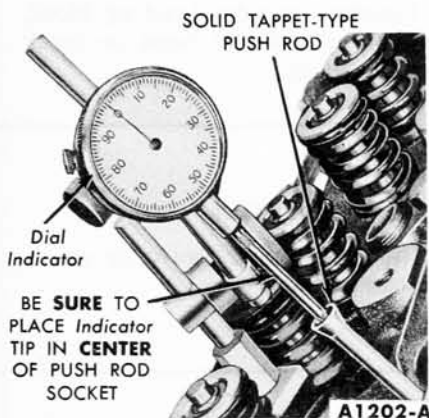

FIG. 13—Camshaft Lobe Lift
2. Make sure the push rod is in the lifter push rod cup. Install a dial indicator in such a manner as to have the actuating point of the indicator in the push rod socket and in the same plane as the push rod movement (Fig. 13).